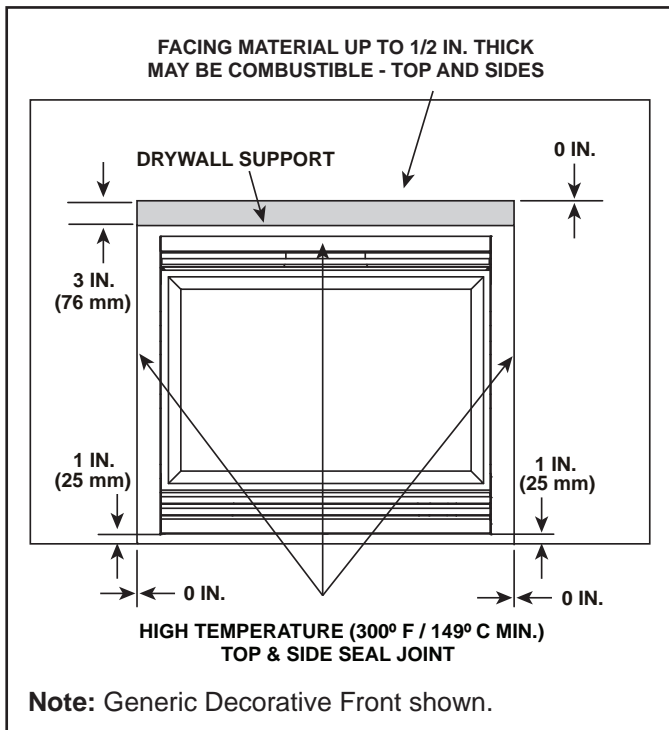

Figure 10.1 Non-combustible Facing Diagram
- Seal joints between the finished wall and appliance top and sides using a 300 °F (149 °C) minimum sealant. Refer to Figure 10.1